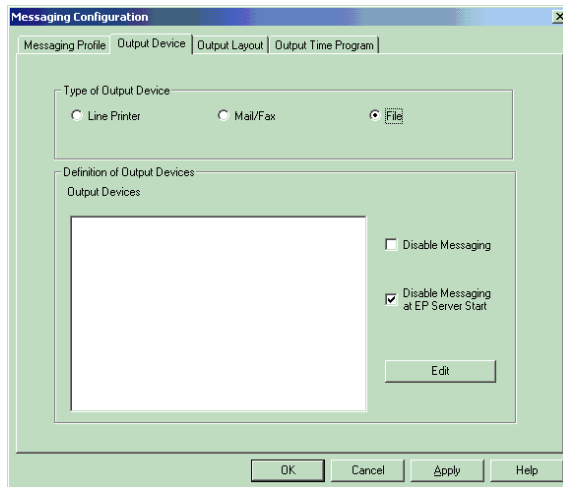

Fig. 7-41
1. On the "Output medium" tab (see Fig. 7-41) select "File" as the "Output media type" and then click on the "Edit" button.